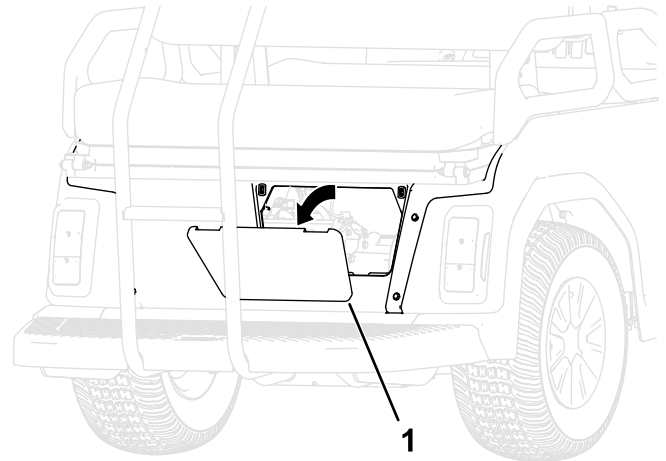

Figure 17
2. Remove the access cover from the rear of the machine (Figure 17).